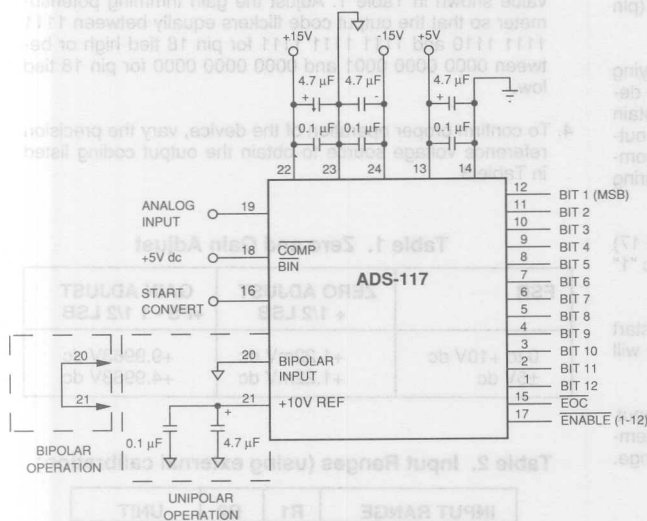
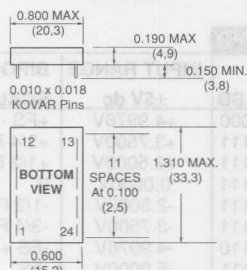

Figure 3. Typical ADS-117 Connection Diagram
Figure 4. Optional Calibration Circuit
move them through software will use the typical connections shown in Figure 3. Remove system errors or adjust the small initial errors of the ADS-117 to zero using the optional external circuitry shown in Figure 4. The external adjustment circuit has no effect on the throughput rate.
1. Connect the converter per Figure 3, Figure 4, and Table 2 for the appropriate full-scale range (FSR). Apply a pulse of 150 nanoseconds to the START CONVERT input (pin 16) at